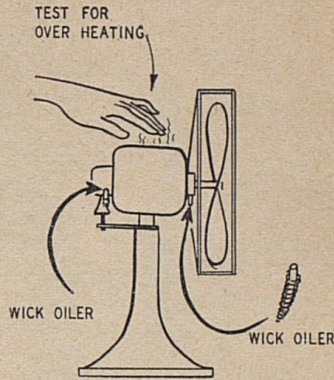

Fig. 37
3. Shown in Fig. 37 is a fan which contains wick oilers. These oilers or cups should be filled yearly with vaseline or a light grade of cup grease.